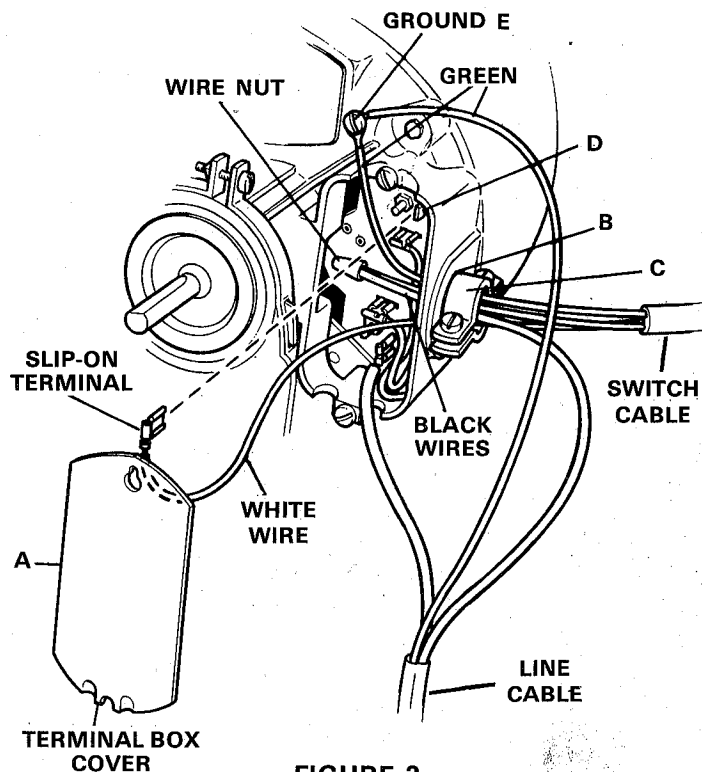

FIGURE 2
1. Remove terminal box cover (A Fig. 2) and round knock out plug (B).
2. Install cable connector (C) in round opening. Sharp lugs on connector nut must go against inside of terminal box. Tighten nut securely.
3. Remove line cord lead from "slip on lug" (D) - just pull it off.